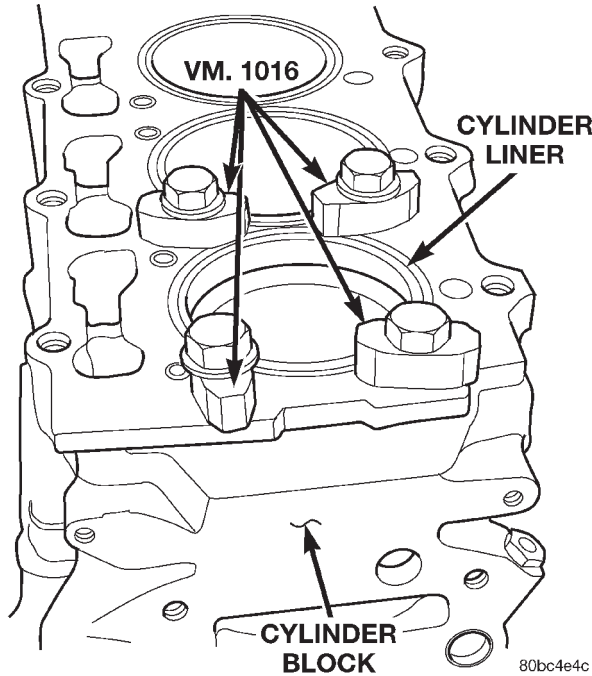

Fig. 107 Liner Clamp Location
(8) Fit the liners in the crankcase making sure that the shim is positioned correctly in the seat. Lock the liners in position using special tool (VM-1016) and bolts (Fig. 107). Clean the residual LOCTITE on the upper surface of the block deck.